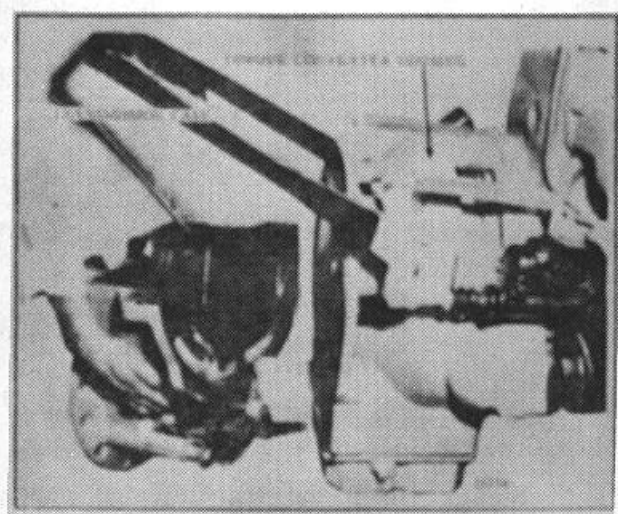

Figure 17.
8. Unscrew the transmission mounting bolts. Pull the transmission case away from the torque converter housing. (Fig. 17) Remove the differential pinion only if necessary.